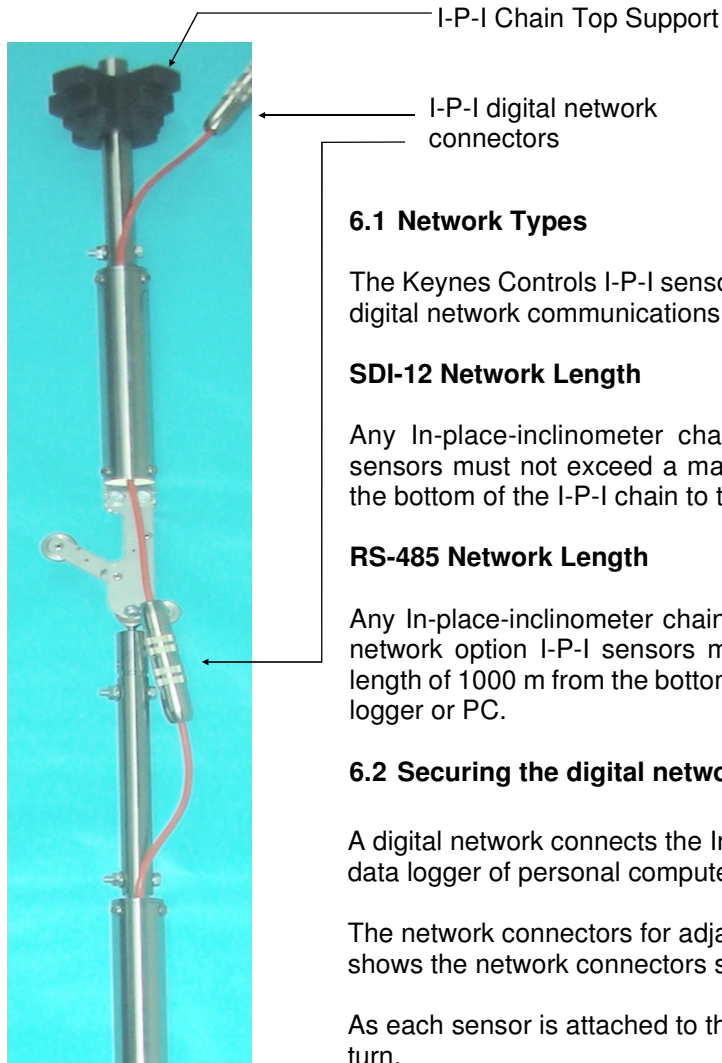

Fig 11 I-P-I Chain Assembly
1. Secure each sensor to the I-P-I chain as shown in Fig 11.